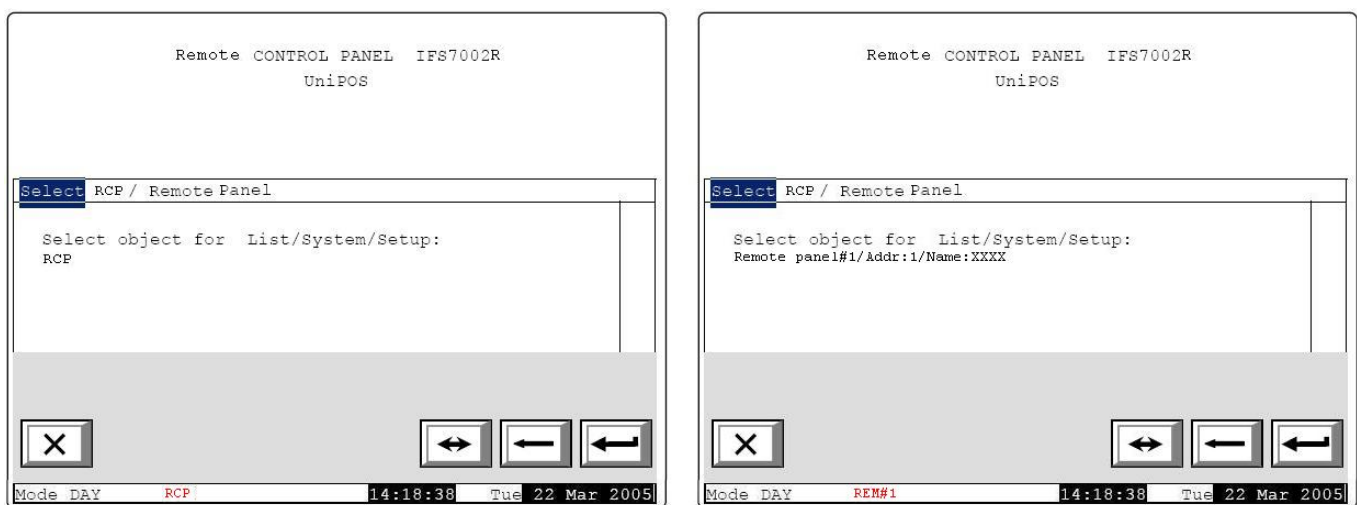

fig. 12
- from menu "Lists -> Select Local/Remote Panel" we can choose the remote panel (fig.12):
After we confirm the option "Remote panel..." the indication in the TAB bar will change to "REM#1" (in red letters on the fig.12). Now we can browse the menus "Lists/System functions/Setup" of the remote panel.